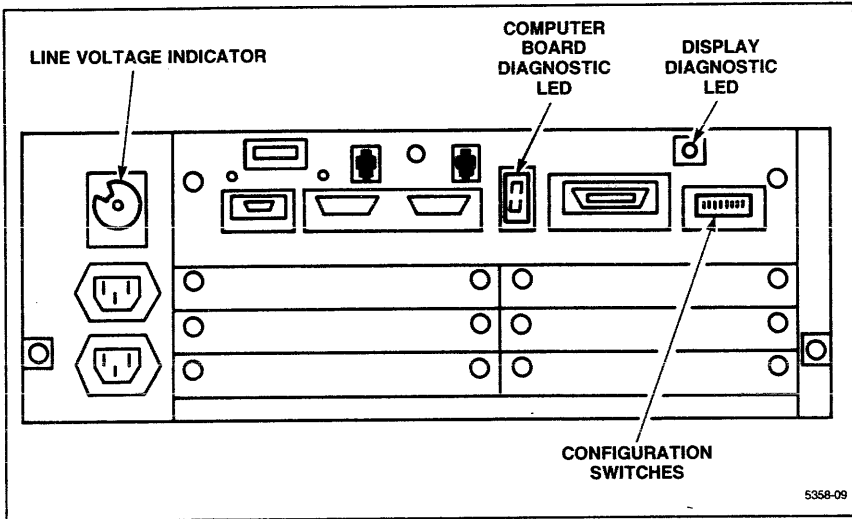
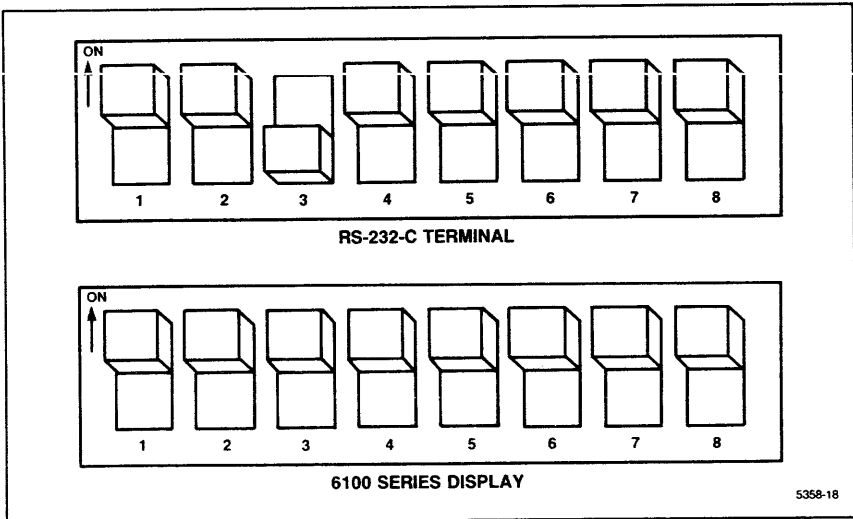

Figure 4-2. Workstation Back Panel.
Figure 4-3. Configuration Switch Settings.
4. Is the workstation set for the correct line voltage? Lift the cable management cover to expose the back panel. Figure 4-2 shows the location of the line voltage indicator. The indicator only has two settings: 115 Vac (domestic setting) and 230 Vac (European setting). Verify that the indicator shows the correct line voltage for the wall outlet used. If the setting is wrong, contact your local Tektronix Field Office.
5. Are the configuration switches on the back panel set properly? Figure 4-2 shows the location of the configuration switches on the back panel. Figure 4-3 shows the typical settings for a workstation with either a 6100 Series display or a separate RS-232-C terminal.
6. Are the diagnostic LEDs on the back panel turned on? Lift the cable management cover and check the LEDs. See Figure 4-2. If the display diagnostic LED is on, or the computer board diagnostic LED shows a constant pattern, there is a hardware failure in the workstation. Contact your local Tektronix Field Office.